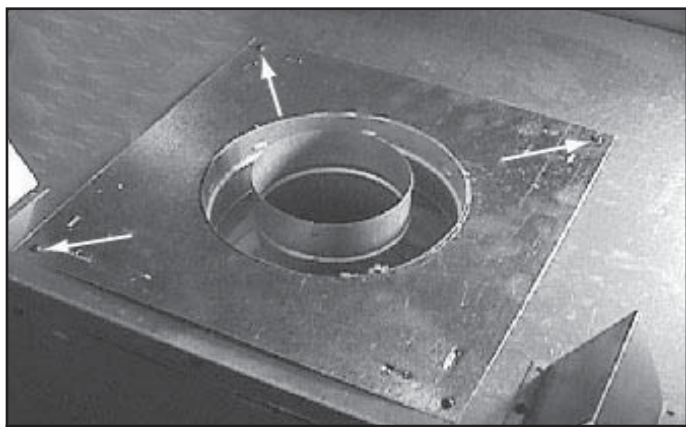

Figure 9.3 Cover Plate, Remove Screws
- Remove three remaining screws holding the plate surrounding flue. See Figure 9.3. Remove plate and set aside.